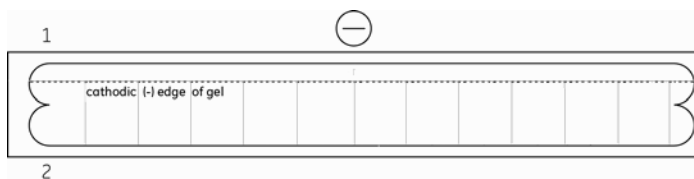

Fig 3 The cathodic (–) edge of the gel bisects the slot at position 1
- 2 Slide the positioner so that the cathodic (–) edge of the gel bisects the slot at position 1 (Fig 3).